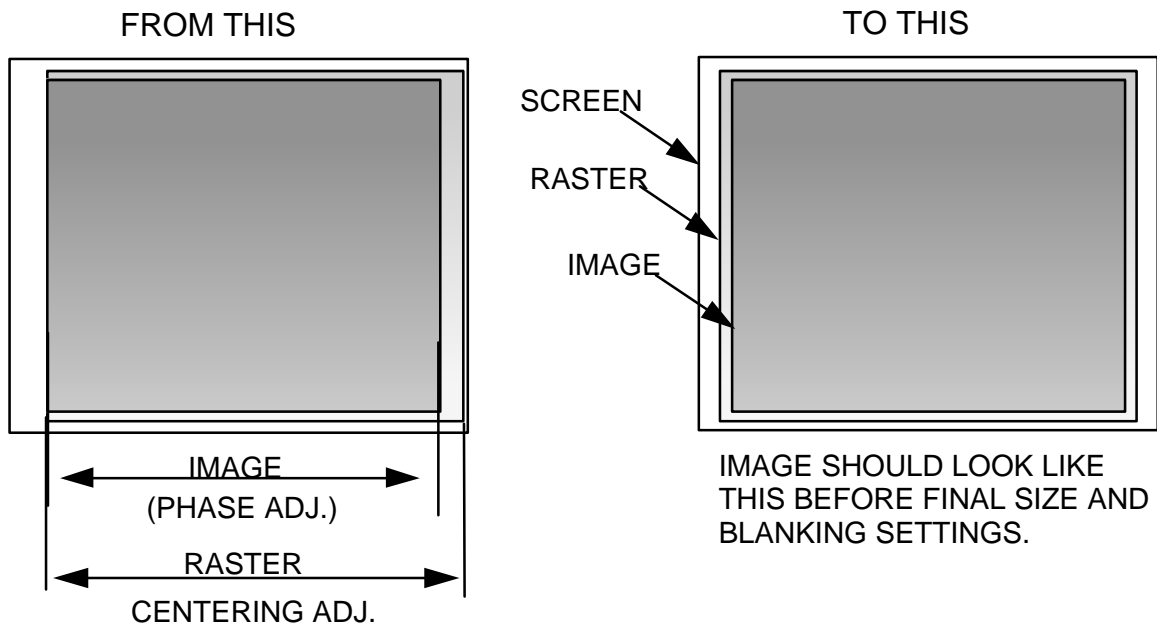

Figure 5-3. Phase, Size and Centering adjustments.
3. Use the arrow keys to increase the brightness level to view the entire raster and image (*see Figure 5-3*). Press Escape when finished.
5. Verify that the input image and raster are smaller than the screen (*refer to Figure 5-3*). If not, access the Size adjustment from the Geometry menu and use the arrow keys to size the image just smaller than the screen size. Press Escape or Enter when finished.
3. Use the arrow keys and adjust the horizontal and vertical phase so that the image folds over on either side or at the top and bottom. Center the input image on the raster (see Figure 5-3).
5. Use the arrow keys and position the Green raster vertically and horizontally so that it is centered on the screen (*Refer to Figure 5-3*).
3. Use the arrow keys and adjust the size of the image to the screen horizontally and vertically (*refer to Figure 5-3*).